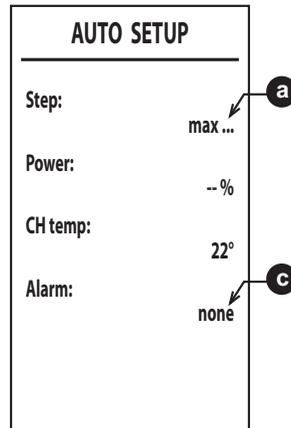

fig. 38
6. After ignition, the burner goes to the various powers (max, med, min) indicated by **a** (fig. 38).
- shows **max_err** at **a** and an error code at **c** (fig. 38).